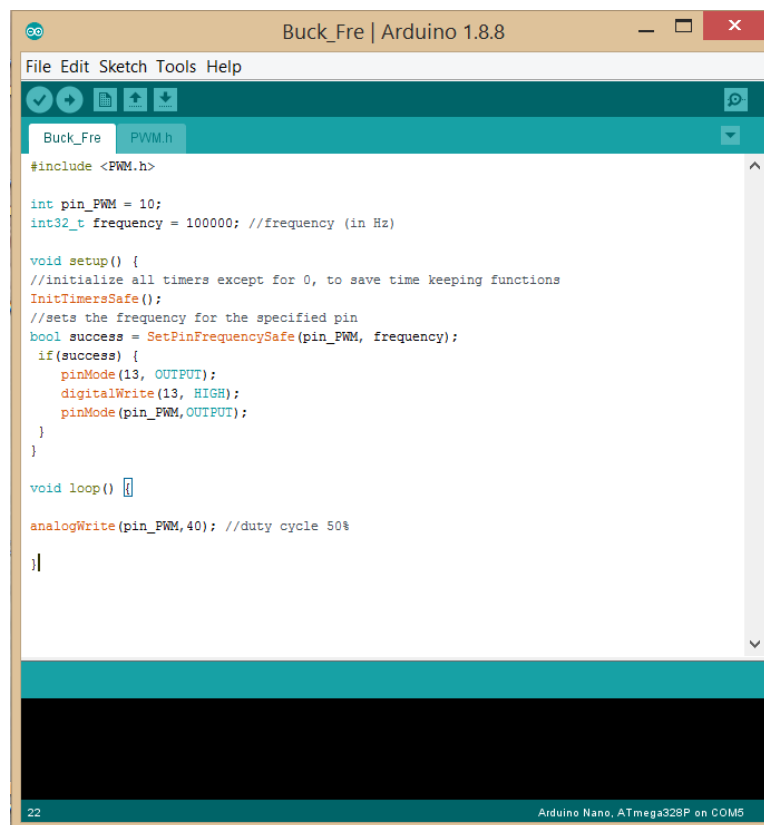

Figure 6: Arduino sample code to generate a PWM signal via pin 10 with 100kHz frequency and 50% duty cycle.
The PWM library facilitates users to change the PWM frequencies as desired. In the meantime the **analogWrite** function is no longer defaulted by the 8-bit resolution but it becomes a period dependent value. The period of frequency and analog duty cycle can be determined by equations (1) and (2). The system clock frequency  $f_{clk}$  of the ATmega328P is 16MHz, the prescaler  $N$  is 1, and  $d$  is the duty cycle. A sample code can be found in the Laboratory Exercises folder, and the code is shown in Fig. 6. A 100kHz frequency is set for Pin 10. And based on equation (1), you should be able to calculate the period counter (OCR1x where  $x = A$  is for Pin 9 and  $x = B$  is for Pin 10) of the frequency. The duty cycle value for **analogWrite** can be calculated based on equation (2).